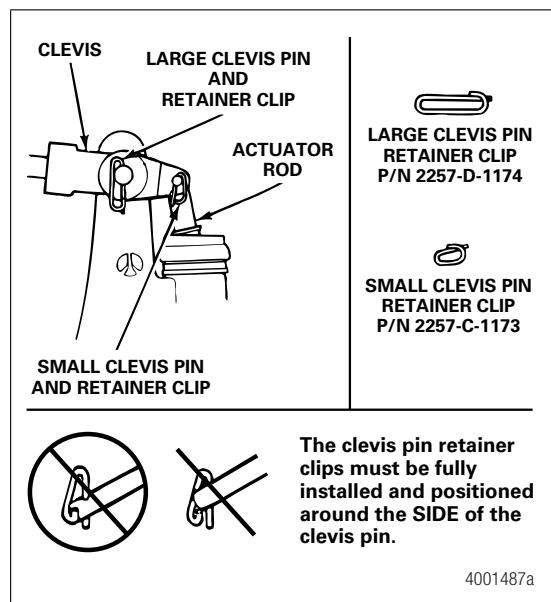

Figure 5.13
2. Install new clevis pin retainer clips or cotter pins to secure the clevis pins. Retainer clips must be fully installed and positioned around the side of the clevis pin. Figure 5.13.